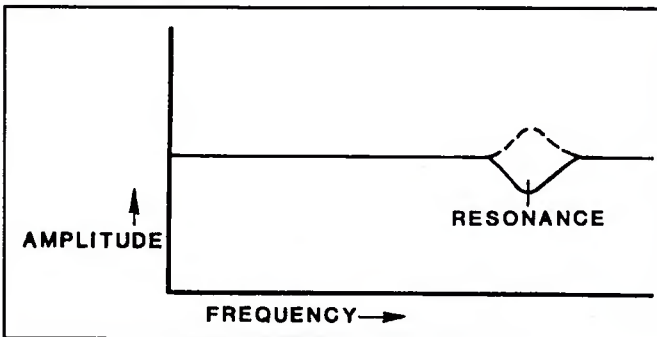

Figure 5-11. Effect of "BAL" Control on Amplitude Response
Generally, the BALANCE and PHASE controls of each section can be used to correct minor frequency response deficiencies without interacting with the group delay adjustments. Refer to Figures 5-11 & 5-12. Correspondingly, moderate
- Observing sweep adjust balance and phase controls for flattest response. The effect of these controls is shown in Figures 5-11 and 5-12.